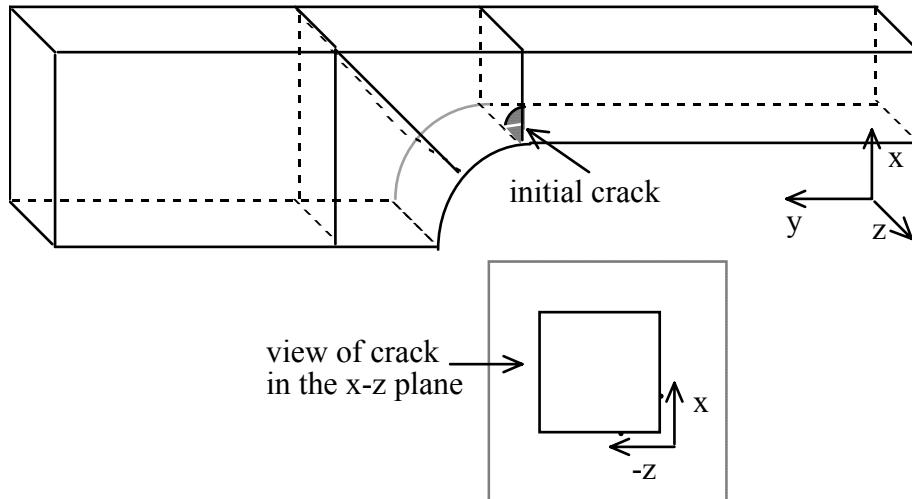

Figure 3.7. Initial crack in the model.
Based on the stress analysis results, or assuming that we know of a pre-existing crack, we decide that we now need to put a crack in the model. For this model, assume that we have found a pre-existing crack at the point of highest tensile stress concentration. We will create a small, quarter-penny-shaped surface crack at the point where the arc joins the narrow portion of the model (Figure 3.7).
Step 4: If you have not made an error, the flaw should be in the proper location. Select **Accept** on the dialog box to add the flaw to the model. The flaw should appear as shown in Figure 3.7.